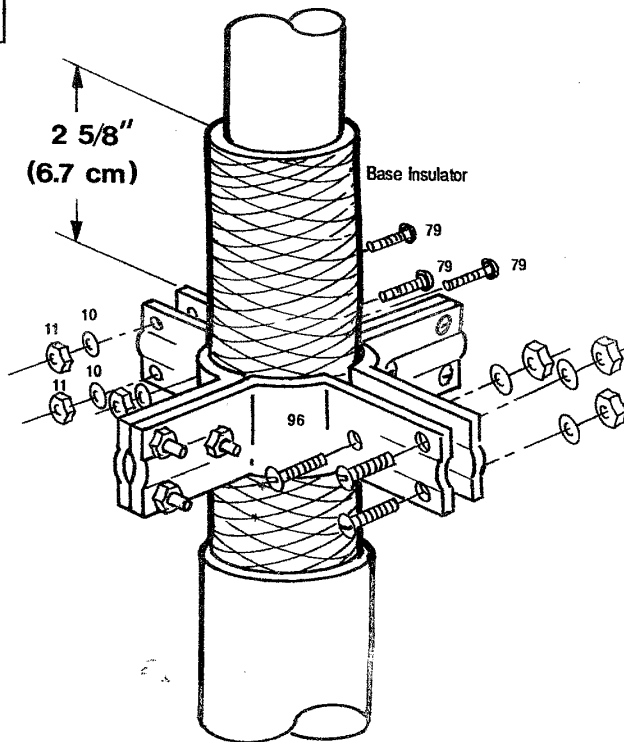
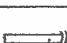

FIGURE 1
**FIGURE 2
Your R4 is a half wavelength vertical which does not require traditional ground radials. Your roof top, balcony, garden, motor home, porch, deck, or tower top etc, are all suitable locations for the R4. **YOU MUST INSURE THAT NEITHER PEOPLE OR PETS CAN COME IN CONTACT WITH YOUR ANTENNA WHILE IT IS IN OPERATION. DEADLY VOLTAGES AND CURRENTS MAY EXIST. ALSO, SINCE THE EFFECTS OF EXPOSURE TO RF ARE NOT FULLY UNDERSTOOD, LONG TERM EXPOSURE TO INTENSE RF FIELDS IS NOT RECOMMENDED.** There are four warning stickers which should be attached to the counterpoise ground rods as shown in figure 2.
Using figure 1 assemble the rod brackets. First assemble two rod brackets leaving the screws and nuts loose. Now assemble a second set of these brackets. Attach the two halves loosely around the base insulator.
Referring to figure 2 attach the Impedance Matching Assembly Box to the radiator bracket as shown. To do this you may have to rotate the rod bracket slightly. The bottom of the box should be attached to the lower bracket as shown. Attach braid JU between the box and the rod brackets as shown. Next assemble and position the mast mount rings (90).
Attach the 48 inch (122 cm) IG rods to the rod bracket on the antenna base. Slip them into the slots on the end of the bracket and firmly tighten the machine screws and nuts. Figures 1 and 2. Attach warning labels 326 to the ends of the IG rods as shown in figure 2.